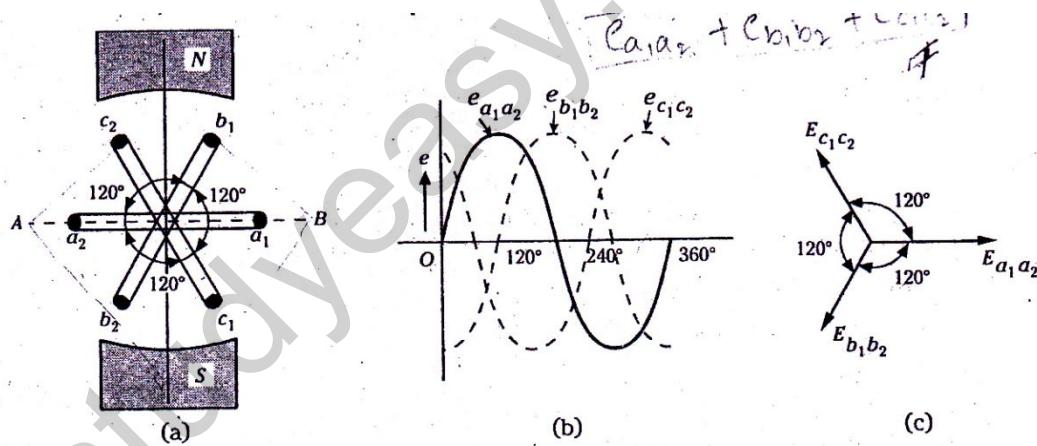

Fig. 3.80
Consider three electrical coils a_1a_2, b_1b_2 and c_1c_2 mounted on the same axis but displaced from each other by 120° electrical. Let the three coils be rotated in an anticlockwise direction in a bipolar magnetic field with an angular velocity of ω radians/sec, as shown in Fig. 3.80. Here, a_1, b_1 and c_1 are the start terminals and a_2, b_2 and c_2 are the end terminals of the coils.
When the coil a_1a_2 is in the position AB shown in Fig. 3.80, the magnitude and direction of the e.m.f.s induced in the various coils is as under:
- E.m.f. induced in coil a_1a_2 is zero and is increasing in the positive direction. This is indicated by $e_{a_1a_2}$ wave in Fig. 3.80 (b).
Vector Diagram: The r.m.s. values of the three phase voltage are shown vectorially in Fig. 3.80(c).
The order in which the voltages in the phases reach their maximum positive values is called the phase sequence. For example, in Fig. 3.80(a), the three coils $a_1 a_2$, $b_1 b_2$ and $c_1 c_2$ are rotating in anticlockwise direction in the magnetic field. The coil $a_1 a_2$ is 120° electrical ahead of coil $b_1 b_2$ and 240° electrical ahead of coil $c_1 c_2$. Therefore, e.m.f. in coil $a_1 a_2$ leads the e.m.f. in coil $b_1 b_2$ by 120° and that in coil $c_1 c_2$ by 240° . It is evident from Fig. 3.80(b) that $e_{a_1 a_2}$ attains maximum positive first, then $e_{b_1 b_2}$ and $e_{c_1 c_2}$. In other words, the order in which the e.m.f.s in the three phases $a_1 a_2$, $b_1 b_2$ and $c_1 c_2$ attain their maximum positive values is a,b,c. Hence, the phase sequence is a,b,c.